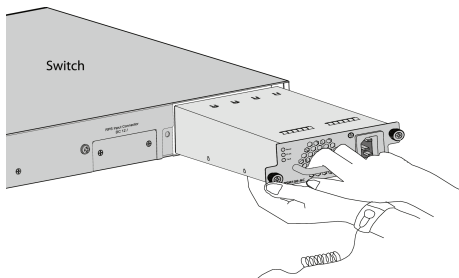

Figure 2-3 Install Power Supply Module
2. Grip the handle of the module with one hand, and hold the bottom of the module using your other hand. Gently push the module in along the slot guide rail until the module is flush with the switch, as shown in Figure 2-3.